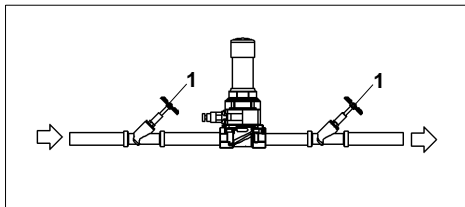

Fig. 5: Cartridge exchange I
1. Close the shut-off valves (1) upstream and downstream of the device (see Fig. 5).